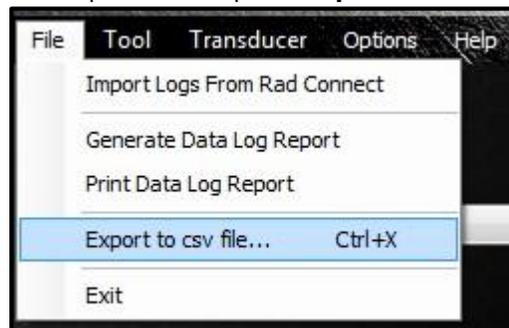

Figure 5.7-1: Export Button
1. In the "File" dropdown menu press **"Export to csv file"** (Figure 5.7-1).